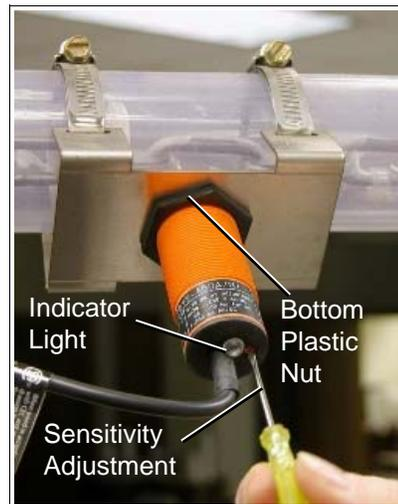

Figure 16E
3. The Proximity Switch must touch the clear tube. Adjust the top plastic nut until the top of the switch is touching the tube. Adjust the bottom plastic nut to secure into place (See Figure 16E).
3. If the light is ON when the tube is empty, the switch is too sensitive. You must reduce the sensing distance by turning the sensitivity screw counter clockwise. To increase the sensing distance adjust the screw clockwise (See Figure 16E).